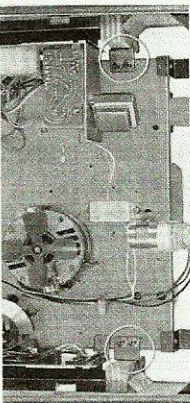

Fig. 2
4. After tightening the four screws on both sides, place the deck with top panel up and check whether or not the deck is properly fixed. If readjustment is necessary, turn the deck upside-down and loosen the four screws located at the encircled parts on Fig. 2. The deck can be moved slightly.